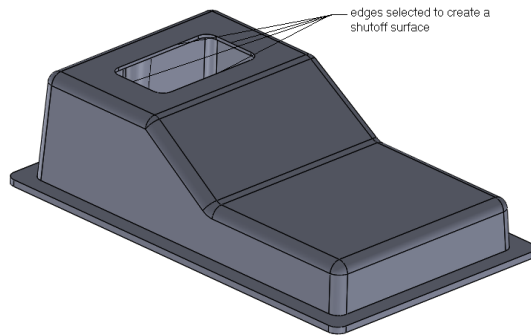
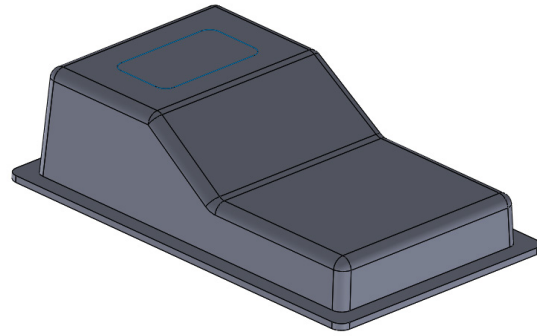

Figure 21-37 Edges selected to create a shutoff surface
Figure 21-38 Model after creating the shutoff surface
- d. Create the shut off surfaces, refer to Figures 21-37 and 21-38.
4. Invoke the **Planar Surface** tool and select the edges, as shown in Figure 21-37. Next, create the shutoff surface and then close the **Planar Surface PropertyManager**. Model after creating the shutoff surface using the **Planar Surface** tool is shown in Figure 21-38.